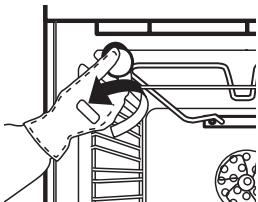

Fig. 5
- Unscrew the lamp cover (Fig. 5), replace the lamp (see note for lamp type) and